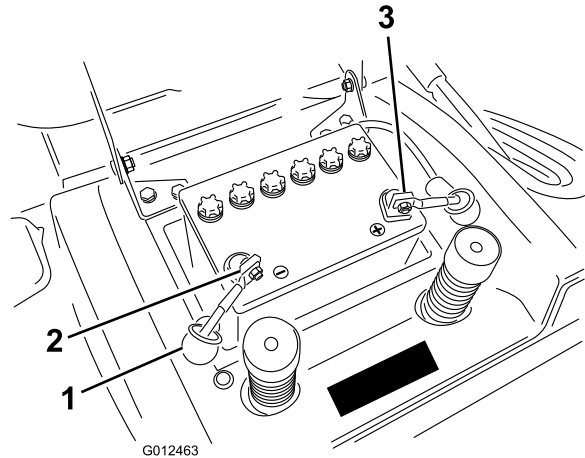

Figure 35
7. Disconnect the negative (black) ground cable from the battery post (Figure 35).
9. Disconnect the positive (red) cable from the battery post (Figure 35).
1. Place the battery into the chassis with the battery posts toward the rear of the machine (Figure 35).
3. Using the bolt and wing nut, connect the positive (red) cable to the positive (+) battery post (Figure 35). Slide the rubber cover over the battery post.
4. Using the bolt and wing nut, connect the negative (black) cable to the negative (-) battery post (Figure 35). Slide the rubber cover over the battery post.